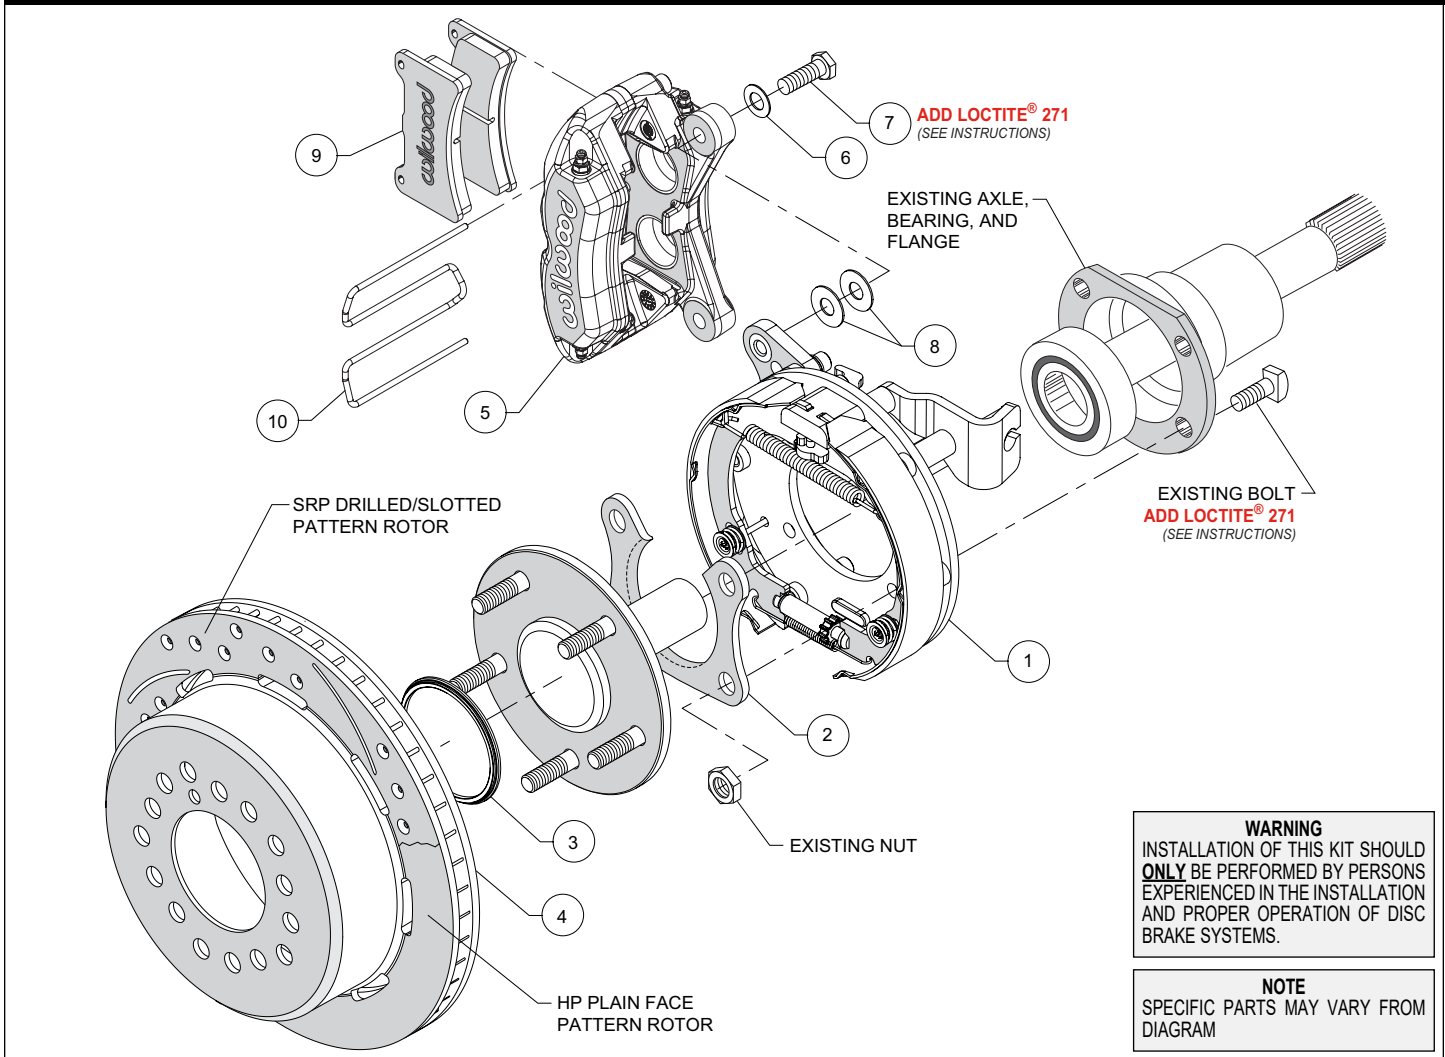
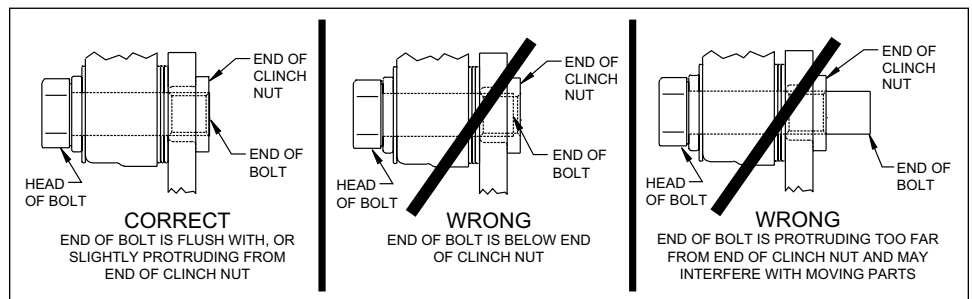

Figure 1. Typical Installation Configuration
Figure 5. Clinch Nut Engagement Diagram
NOTE: Numbers in parenthesis refer to the parts list and Figure 1 on the preceding pages.
CAUTION: All mounting bolts must fully engage clinch nuts. Be sure to check that all bolts are either flush or protruding through flanged side of clinch nut after shimming, Figure 5.
•Orient the bracket assembly (1) as shown in Figure 1 and Photo 1 and slide it onto the axle. Insert the axle and bracket into the axle housing. Ensure that the bracket assembly backing plate fits flush against the axle housing flange.
•Install the bearing retainer (2) with the opening pointing upward and the lip facing inward (toward the bearing), as shown in Figures 1 and 4, and Photo 2. Secure retainer and bracket assembly to the axle housing flange using the Original Equipment
Manufacturer (OEM) bolts and nuts, Figure 1. Apply red *Loctite*® 271 to the OEM bolt threads and torque to OEM specifications.
•Slide the rotor registration adapter (3) onto the axle register on the axle flange with the smaller O.D. facing toward the rotor/hat (4), Photo 3. Align the correct hole pattern in the rotor/hat with the stud pattern on the axle flange and slide into place, Figure 1 and Photo 4. **NOTE:** The rotor/hat must fit flush against the axle flange or excessive rotor run out
•**NOTE:** Please reference the caution statement at the beginning of the assembly instructions. Mount the caliper (5) onto the caliper mounting bracket (1) using bolts (7) and washers (6), as shown in Figure 1. Initially place two .035" thick shims (8) on each bolt between the caliper and the bracket, Photo 5. Temporarily tighten the mounting bolts and view the rotor (4) through the top opening of the caliper. The rotor should be centered in the caliper, Photo 6. If not, adjust by adding or subtracting shims between the bracket and the caliper. Always use the same amount of shims on each of the two mounting bolts. **NOTE:** The end of each bolt must be flush with or slightly protruding from the head of the clinch nut, as shown in Figure 5. If necessary place spare shims between washer (6) and caliper mounting ear to achieve the proper clinch nut engagement. Once the caliper alignment and clinch nut engagement are correct, remove the bolts one at a time, apply red Loctite® 271 to bolt threads, and torque to 40 ft-lb.
•Install the disc brake pads (9) into the caliper, with the friction material facing the rotor (4), and secure in place using pad clip retainer (10), Photo 7.
•**NOTE:** Clevis and cable kits which attach to the parking brake assembly are not included in the Wilwood parking brake kit. Wilwood offers a generic style parking brake cable kit, P/N 330-9371 for this application which can be ordered separately from your local Wilwood dealer or by calling Wilwood customer service at (805) 388-1188.
•Before final installation of the wheel, install three lug nuts, remove the rubber grommet in the bracket kit assembly (1) and adjust the parking brake shoes outward (using a drum shoe adjustment tool available at your local auto parts store) while spinning the rotor/hat (4) until a slight drag is felt against the hat/drum. Replace the rubber grommet when finished.